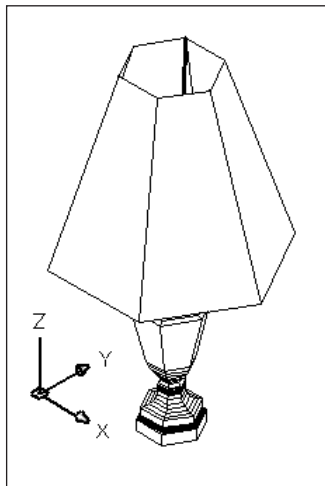

Figure 24-29: The lamp is now ready to place in a 3D drawing of a house.
5. To get a better view, choose **View** ⇨ **3D Views** ⇨ **SE Isometric**. Use the **HIDE** command to hide the drawing. It should look like Figure 24-29. Of course, looking at the lamp from a different viewpoint does not change the orientation of the lamp relative to the UCS.